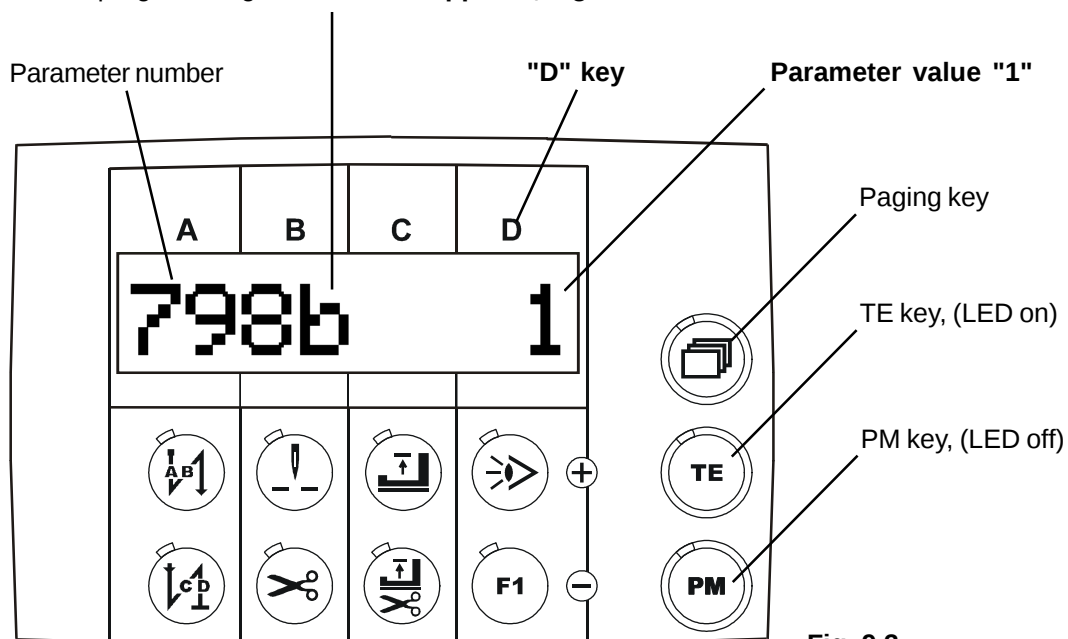

Fig. 9.3
- Use the **D+** or **D-** keys to enter **parameter value "1"**, **Fig. 9.3**
- "**b**" = programming level "**b**" then appears, **Fig. 9.3**